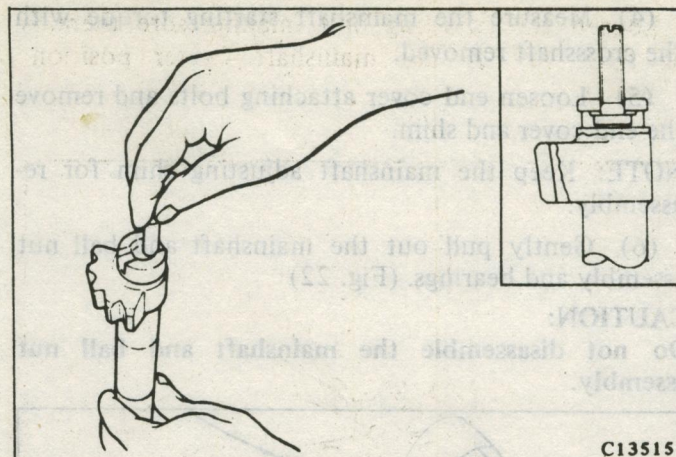

Fig. 26 Adjusting the Crossshaft T Groove
(3) Install the adjusting bolt and spacer in the T groove provided on the crossshaft (upper end). Use spacers to adjust the axial play to the standard value. (Fig. 26)